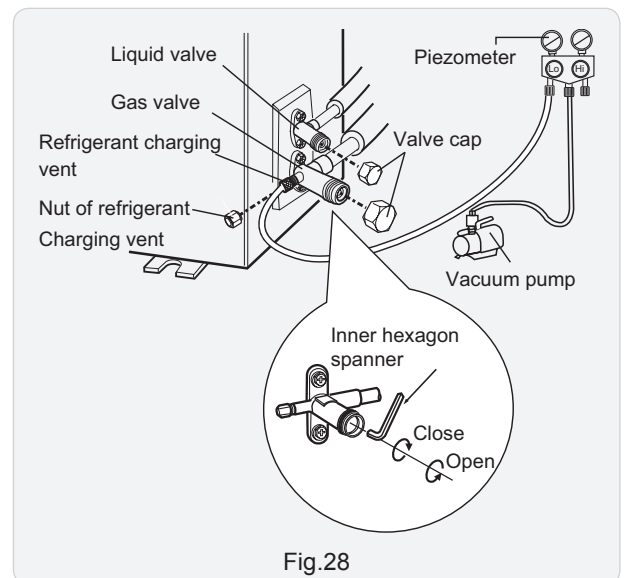

Fig.28
- (1) Remove the valve caps on the liquid valve and gas valve and the nut of refrigerant charging vent.
- (2) Connect the charging hose of piezometer to the refrigerant charging vent of gas valve and then connect the other charging hose to the vacuum pump.
- (3) Open the piezometer completely and operate for 10-15min to check if the pressure of piezometer remains in  $-0.1\text{MPa}$ .
- (4) Close the vacuum pump and maintain this status for 1-2min to check if the pressure of piezometer remains in  $-0.1\text{MPa}$ . If the pressure decreases, there may be leakage.
- (5) Remove the piezometer, open the valve core of liquid valve and gas valve completely with inner hexagon spanner.
- (6) Tighten the screw caps of valves and refrigerant charging vent.(As show in Fig.28)
- (7) Reinstall the handle.